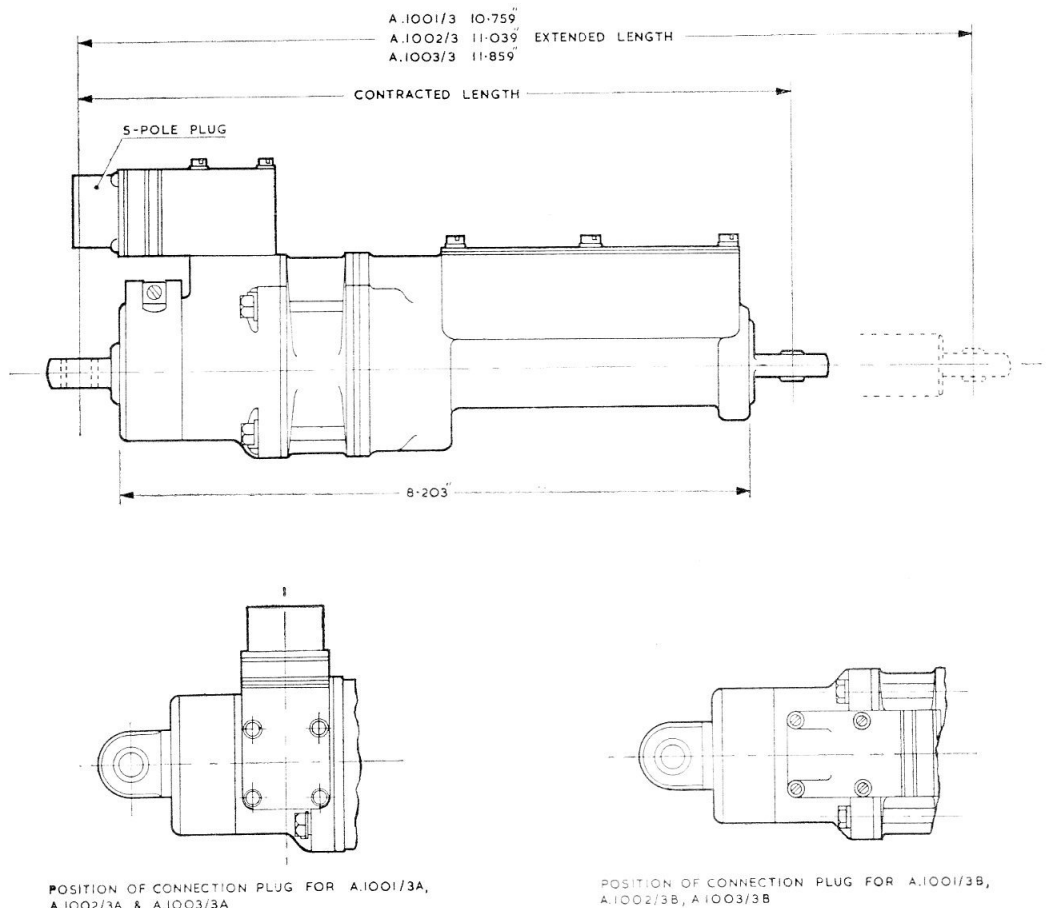

Fig. 2. Plug mounting positions
9. Electrical connection to the actuator is made via a standard 5-pole plug (Ref. No. 5X/6016). It may be mounted in one of three positions, as shown in fig. 2; the code number has either no suffix, or suffix A, or suffix B, as an indication of the plug mounting position.